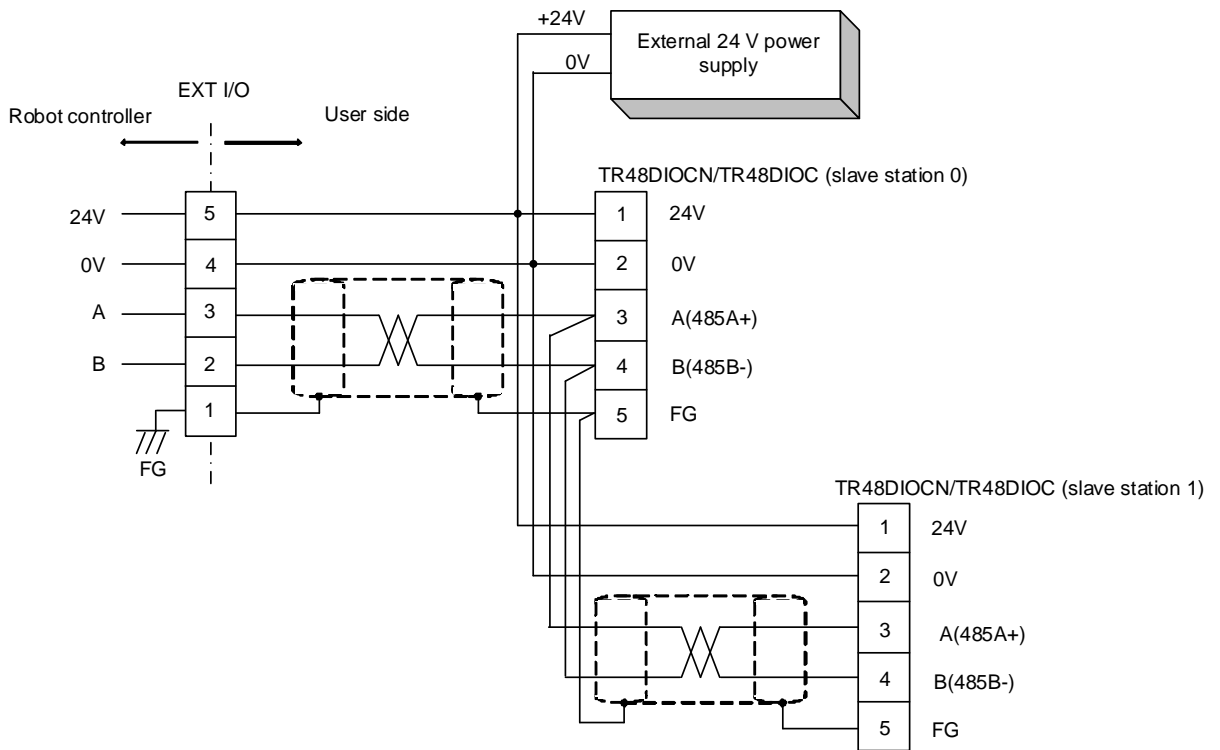

Fig. 7.2 Connection of external I/O cable when external power supply is used
- b.) When connecting two (2) TR48DIOCN/TR48DIOC modules for I/O extension, be sure to branch from the terminal block of slave station 0, as shown in Fig. 7.2. (For the I/O extension, up to two (2) TR48DIOCN/TR48DIOC modules can be connected.)